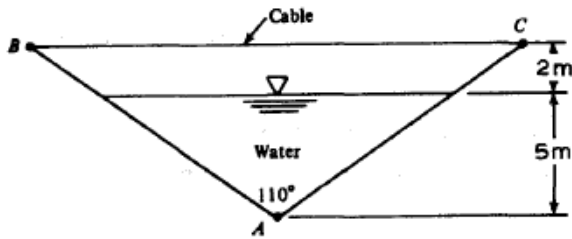

Fig. 3-32(a)
- 3.40 The triangular trough in Fig. 3-32 is hinged at A and held together by cable BC at the top. If cable spacing is 1 m into the paper, what is the cable tension?